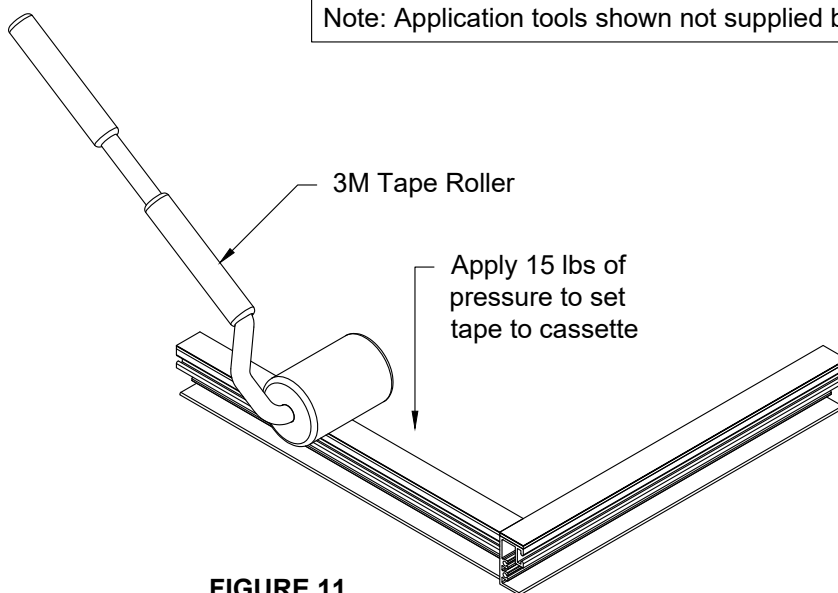

**FIGURE 9**
- 2.6 Vertical tape is run through at corners. Tape will be tucked into the corner to form a tight joint. SEE FIGURE 9, page 14